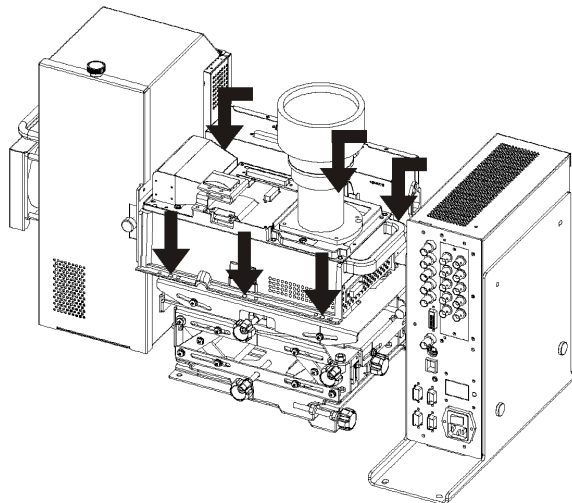

FIGURE 2-3 LOOSEN LIGHT ENGINE
3. Remove the (6) M4 screws securing the light engine module to the 6-axis adjuster, see Figure 2-3.